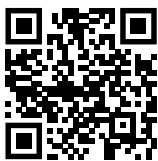

Fig. 168
- ▶ Aprire la Liebherr SmartMonitoring Dashboard. (vedere Fig. 168)